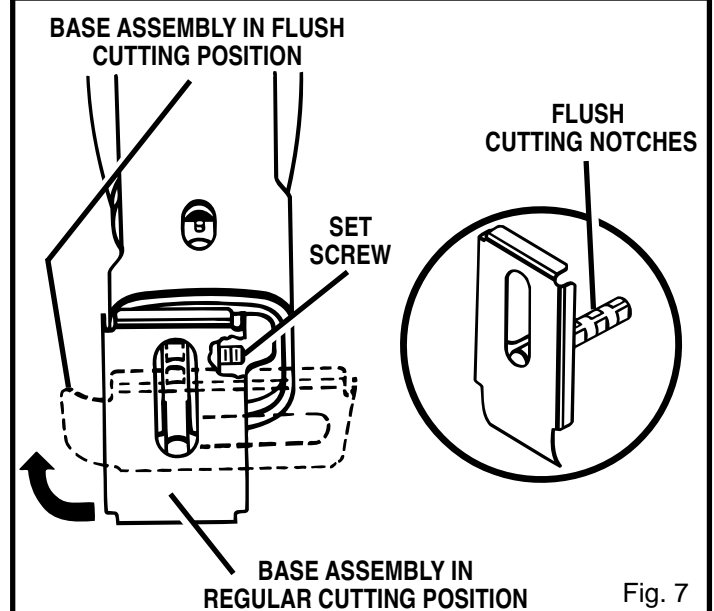

Fig. 7
6. Loosen set screw and turn base assembly clockwise 90°. See Figure 7.